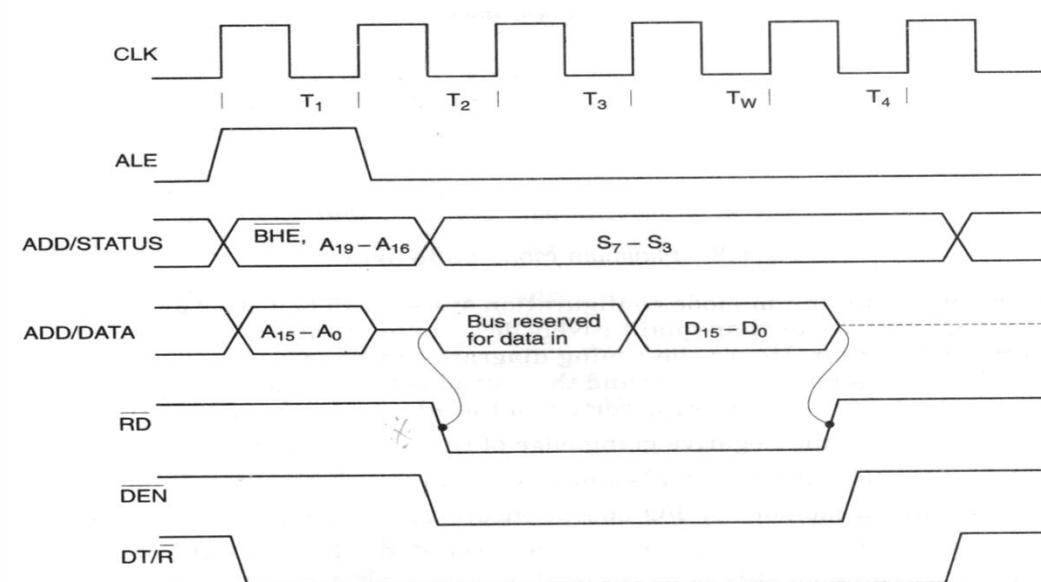

Figure 1.5: Timing Diagram for Read Machine Cycle of 8086.
3. Figure 1.5 shows the timing diagram for Read Machine Cycle of 8086.